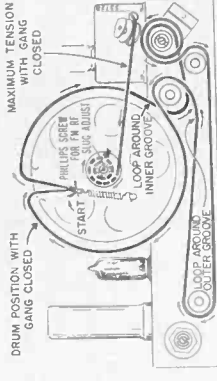

Figure 5. Dial Stringing (Present Production).
- *Loosen Phillips screw that is located on tuning gang shaft. See figure 5. Loosen FM tuner string until it is slack. Perform instruction listed under "Adjustment". Remove slack in FM tuner string by rotating the washer, to which it is attached, clockwise when viewed from front of chassis. Tighten screw.